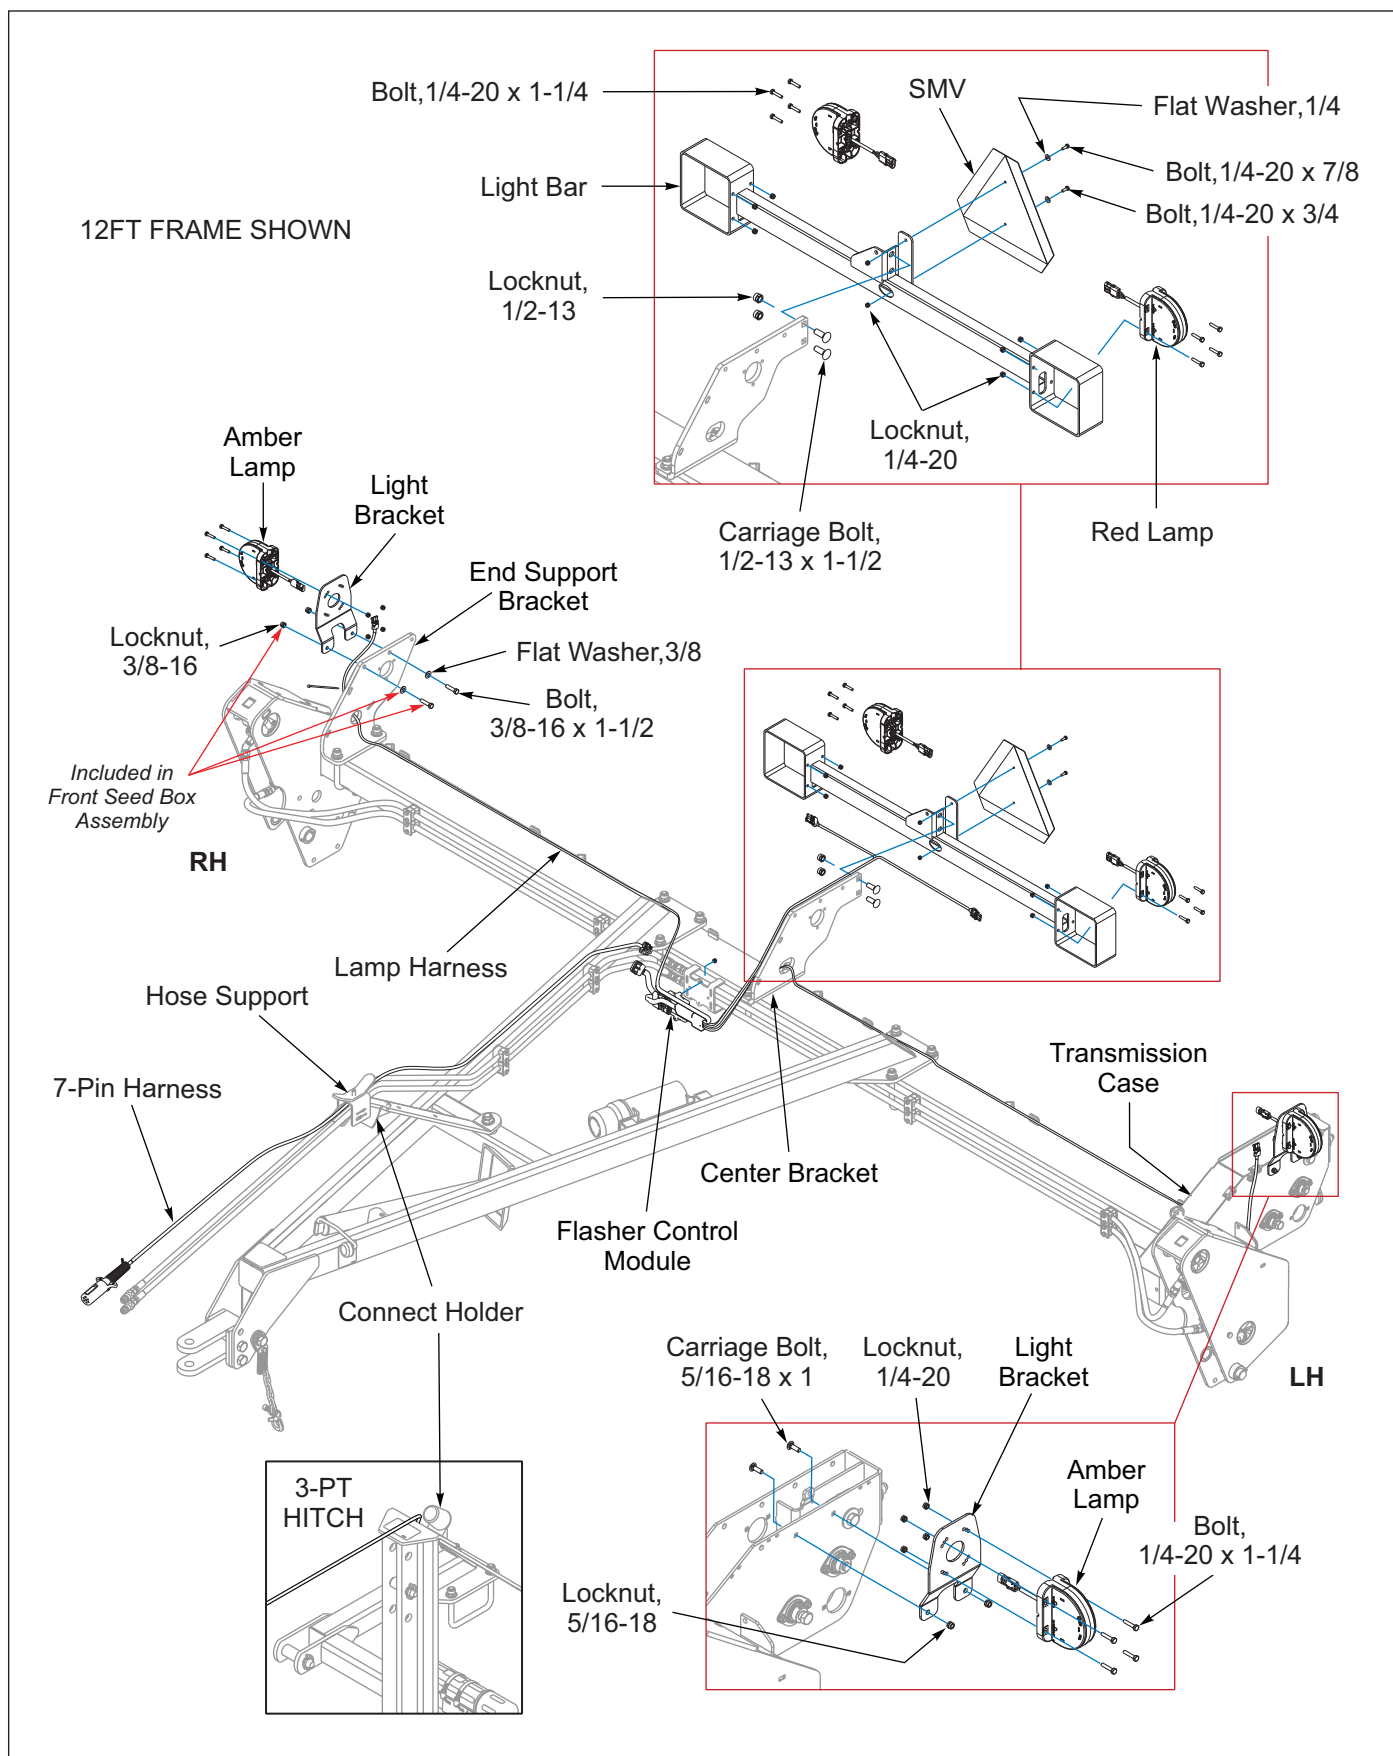

Figure 2-22: Warning Lamp Installation, 10FT and 12FT (After 08/2025)
7. If not installed, attach the Connector Holder to the Drawbar Hose Support or 3-PT Hitch. **See Figure 2-22.**